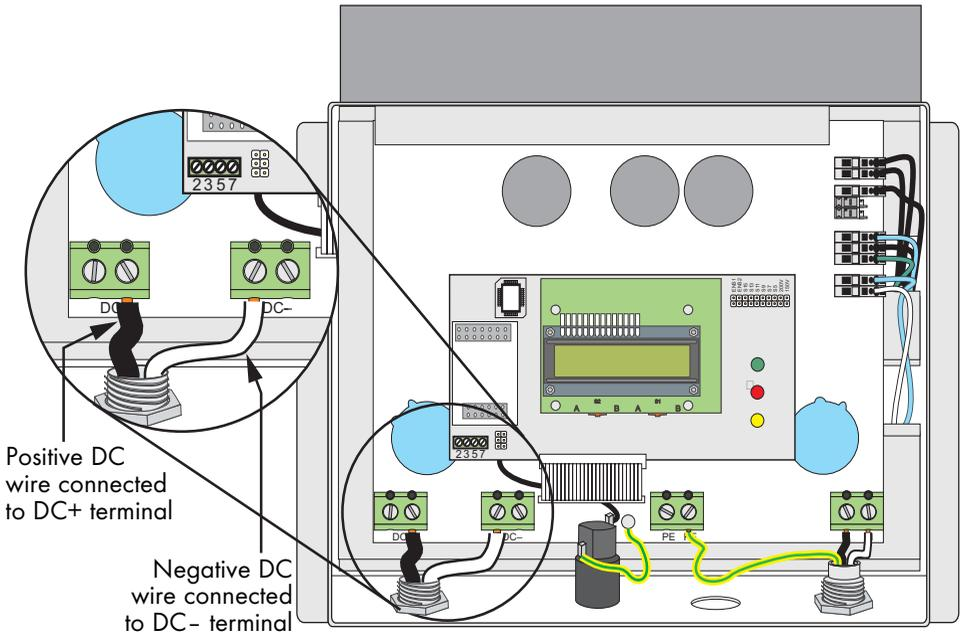

Figure 4-8 DC Connection Terminals
3. Install a ½-inch conduit fitting in the Sunny Boy's DC wiring knockout. The DC knockout is the one farthest to the left on the bottom of the Sunny Boy, as shown in Figure 4-2 (page 4-5) and Figure 4-8 (page 4-16). Fasten the fitting on the inside of the Sunny Boy with the nut supplied with the fitting.
Note: Refer to Figure 4-8 (page 4-16) for steps 5 through 7.